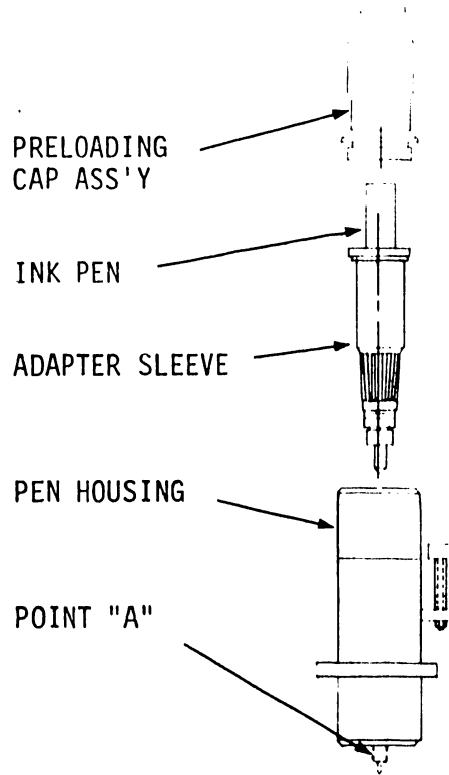

FIGURE 2
5.3 LOADING PROCEDURE FOR INK PEN - FIGURE 2